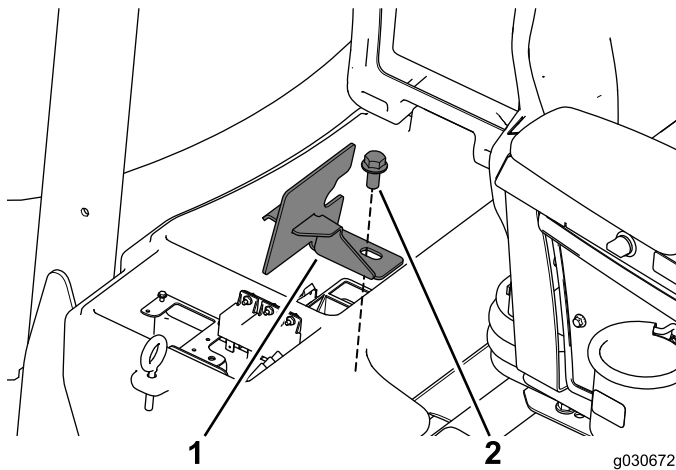

Figure 4
5. Remove bolt securing the battery-compartment clamp and set aside the bolt and the clamp (Figure 4).